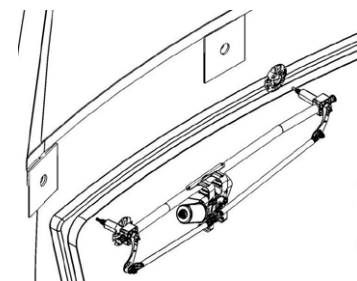

Figure 11
9. Assemble the inner spherical spacers (AME part #407-1102) to the AME 2P Radial Wiper System and orient as shown in Figure 11.